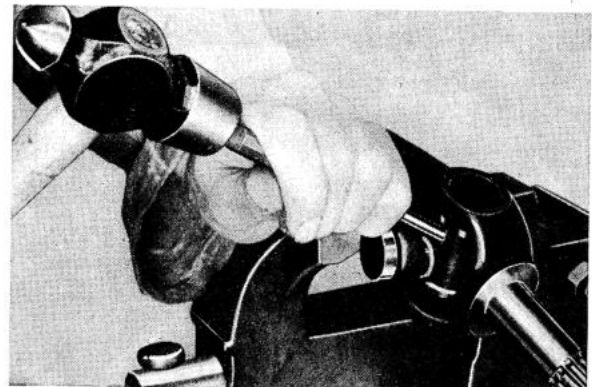

Fig. 4-128. Removing the spider, I
4. Then drive the spider as far as it will go in the opposite direction, see Fig. 4-128.